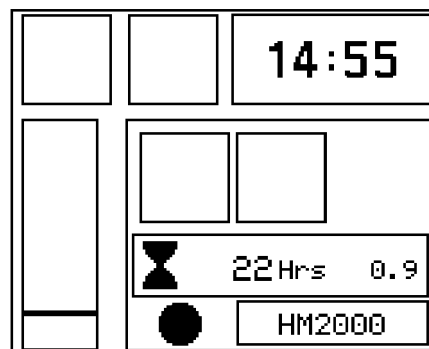

Fig. 3-8 Main screen
- ↵ The symbol @ appears in the S1 field on the main screen (siehe Fig. 3-8)